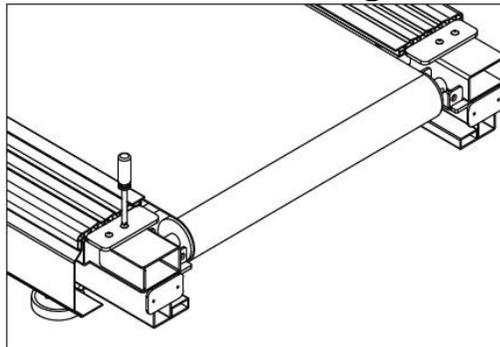

Figure 4.6.1
4.6.2 As shown in Figure 4.6.1, use a screwdriver to remove the screws on the rear cover.